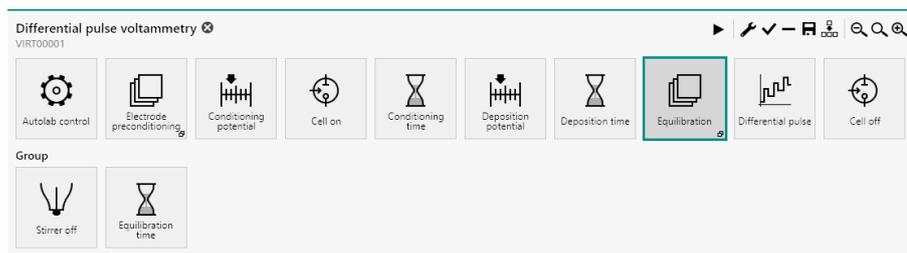

Figure 641 The Equilibration group
- **Equilibration:** this command group is used to create an equilibration step in the procedure. The commands in this group are used to switch the stirrer off and wait for the specified amount of time (see figure 641, page 540).